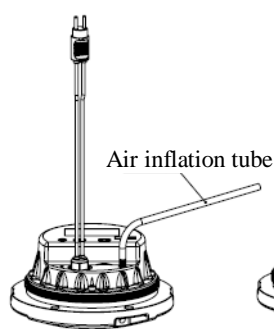

Figure 5-21
- Prepare 138Kpa air source (the air pressure shall not be greater than 150Kpa) and applicable air gun (air tube), inflate the air by aiming at the valve until the air pressure in the lighting fixture meets the requirements (Figure 5-21). Put this lighting fixture into the water with the depth of 76mm for at least 1min and check whether there are bubbles under the state of static water surface. If not, it means that the sealing property of the lighting fixture is good, otherwise it shall be deemed that the lighting fixture has leakage.